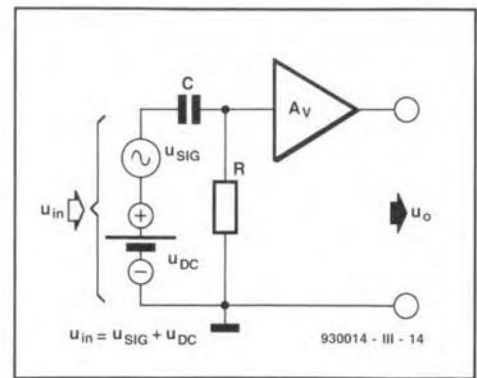

Fig. 23. A.c.-coupling strips off the d.c. component.
form of circuit for suppressing unwanted d.c. components is the **capacitor input** shown in Fig. 23. The signal voltage, U_{sig} , is the algebraic sum of the actual signal (U_{sig}) and the d.c. offset (U_{dc}). In this type of circuit, the capacitor (C) is connected in series with the signal source voltages and the amplifier input terminal. In some amplifiers, there is also a resistor (R) connected between the amplifier input and ground. This resistor is used to prevent the capacitor from being erroneously charged by the d.c. offset voltage and spurious currents from the amplifier input (a fact of life in real amplifiers, unfortunately).